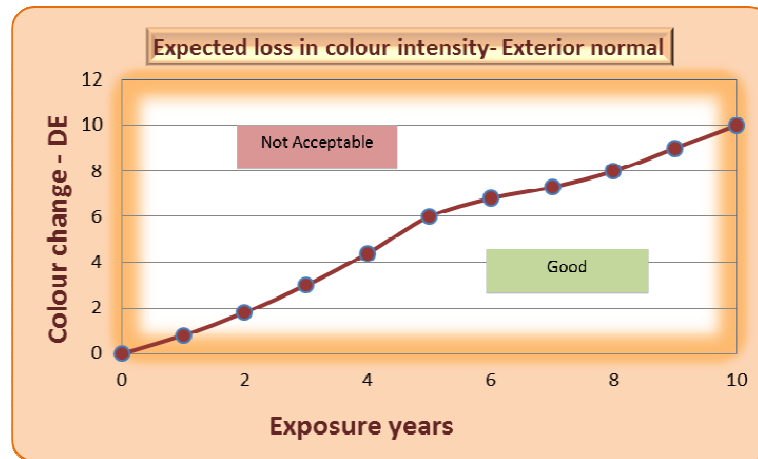

Figure 4: **Expected fading curve of Chromadek® shown by the change in colour intensity (designated by an increase in DE).**
* Natural weathering degradation curves as provided in Figure 4.